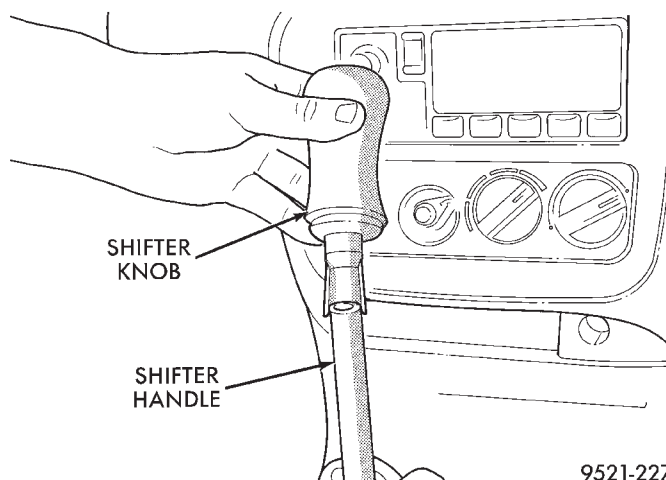

Fig. 138 Gearshift Knob Removal
- Remove the shifter knob from the shifter handle, by pulling the shifter knob straight up (Fig. 138).